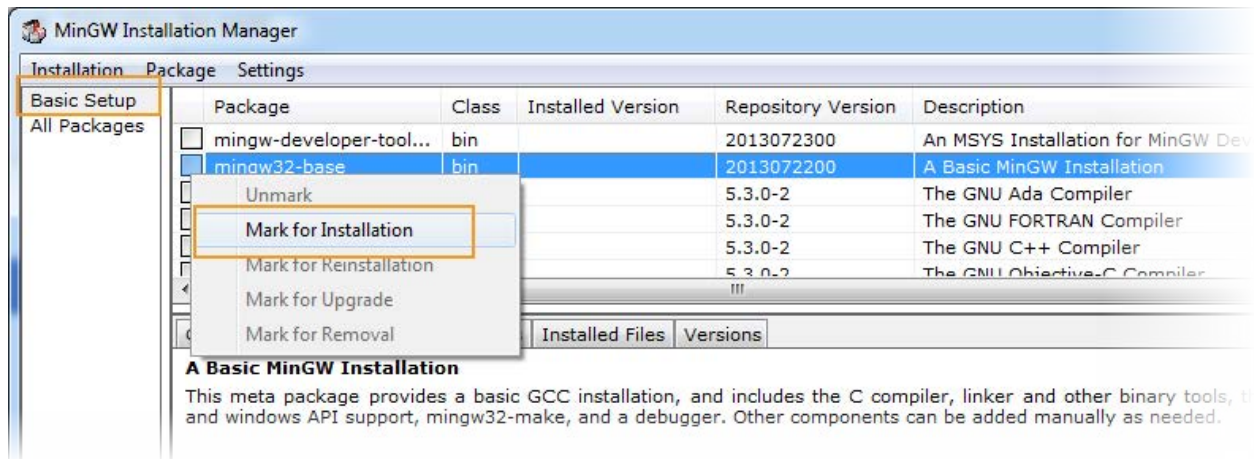

Figure 10. MinGW Installation Manager
- To build an `httpd` project, export MinGW/bin path for `gcc` command, then install **msys-vim** package for `xxd` command by launching the **MinGW Installation Manager** (`mingw-get-setup.exe`) and choosing the **reinstall**, as shown in Figure 10.